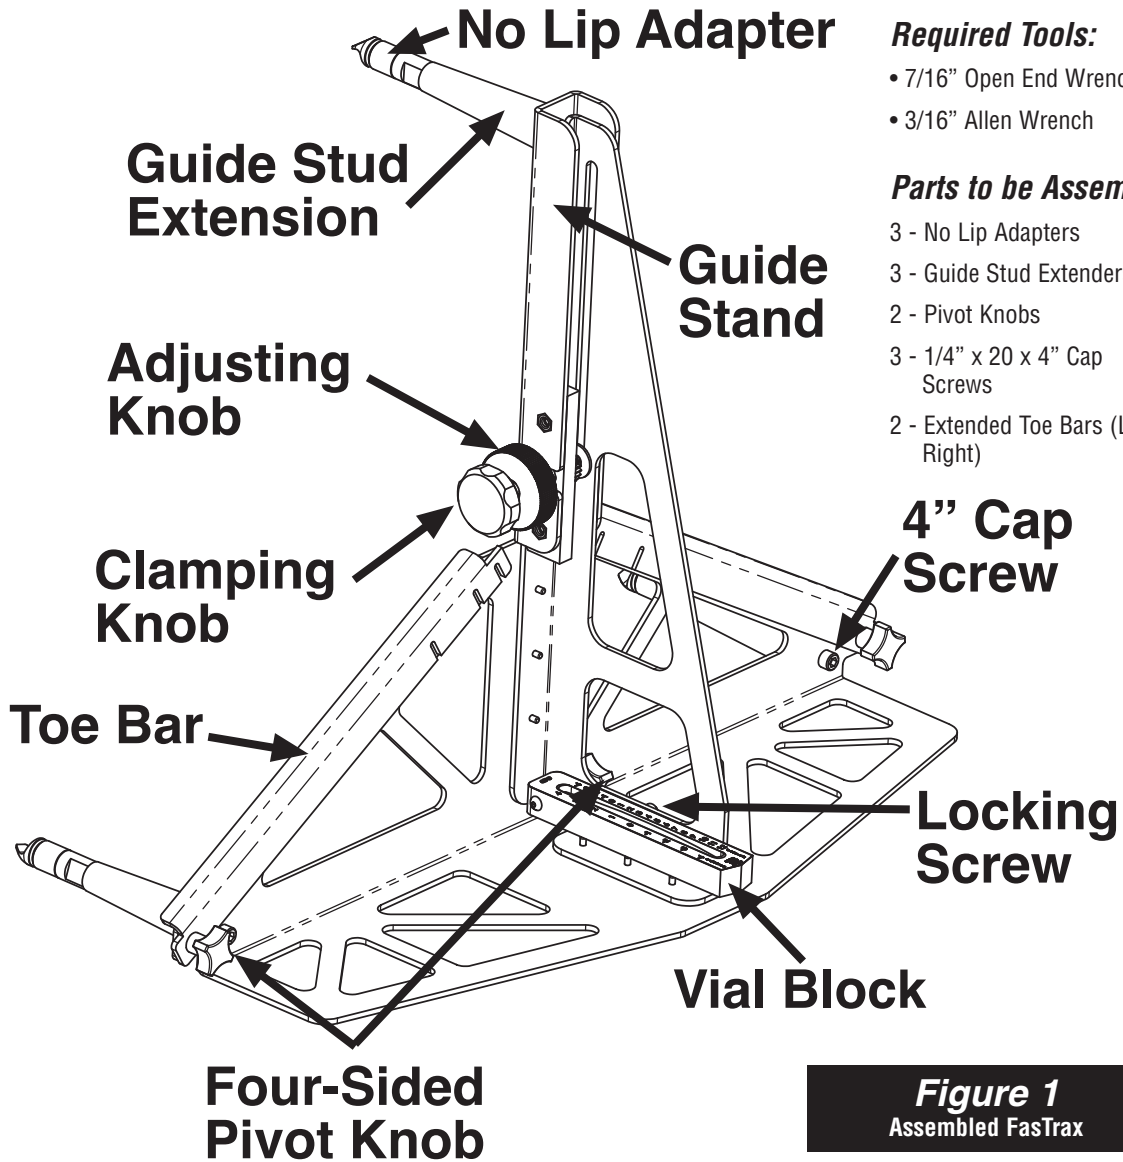

Figure 1
ASSEMBLY INSTRUCTIONS (Refer to Figure 1)
4. Position Toe Bars (Left and Right) on the clenching studs (located on the bottom outside corners of the unit). Then install Pivot Knobs. Refer to **Figure 1**.
Measuring Camber: Slightly loosen the black clamping knob and rotate the adjusting knob (see **Figure 1**) to lengthen or shorten the tool. FASTRAX adapts to most wheels from twenty one to twenty six inches in diameter. Fit the tool so the guide studs (3) grasp either the inner or outer lip of the wheel rim. Adjust the tool to apply enough pressure for a snug fit and tighten the black clamping knob. In cases that the wheel has no rim or lip to grasp, simply hold the tool to the accessible flat surfaces and read your camber angles or changes.